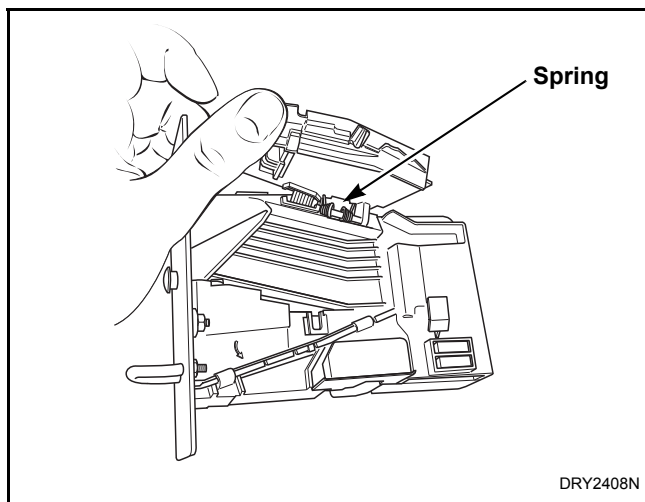

Figure 26
- Open cover of coin drop. Refer to *Figure 26*.